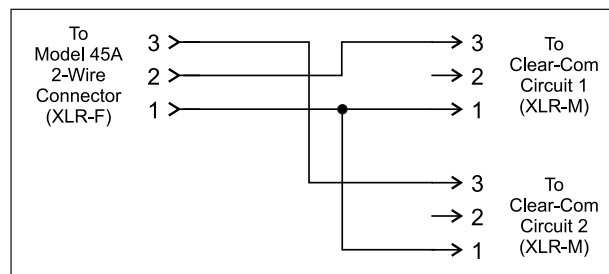

Figure 5. Adapter cable wiring diagram
need to be prepared. The recommended connection method is to create an adapter that "splits" Model 45A's 2-wire (PL) intercom connector into two 3-pin XLR connectors, one for each audio channel. The adapter should use one female and two male connectors. Pin 1 of a female 3-pin XLR intended to mate with the Model 45A will connect to pin 1 of both 3-pin male XLR connectors. Pin 2 of the female XLR will go to pin 3 of the male XLR designated as channel 1. Pin 3 of the female XLR will go to pin 3 of the male XLR designated as channel 2. Refer to Figure 5 for details.